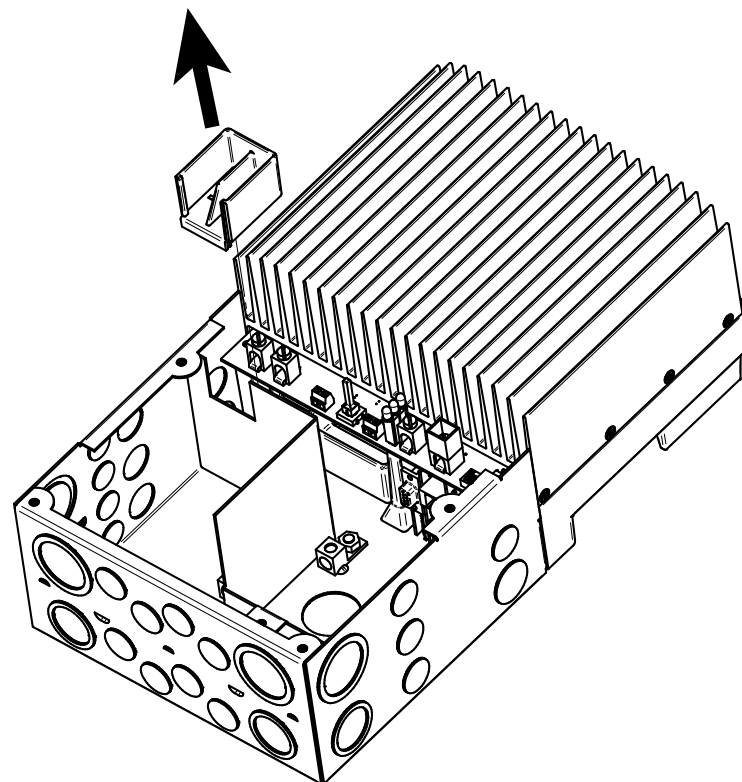

Figure 3-9. Remove the Solar Terminal Bridge.
The Solar Terminal Bridge provides a safe path between the Solar power terminals and the 600V high voltage wiring area. The bridge is removable to allow access to the conduit knock-outs below the bridge. To remove the bridge, gently pull the bridge straight out of the wiring box as shown in figure 3-9.
4. Replace the yellow Solar Terminal Bridge if removed as shown in Figure 3-9 on page 25. The bridge should fit over the solar power terminals. The bridge isolates the high voltage solar wiring from the low voltage wiring area. The bridge MUST be installed before proceeding. Connect the solar (+) wire to the solar (+) terminal on the TriStar MPPT 600V.